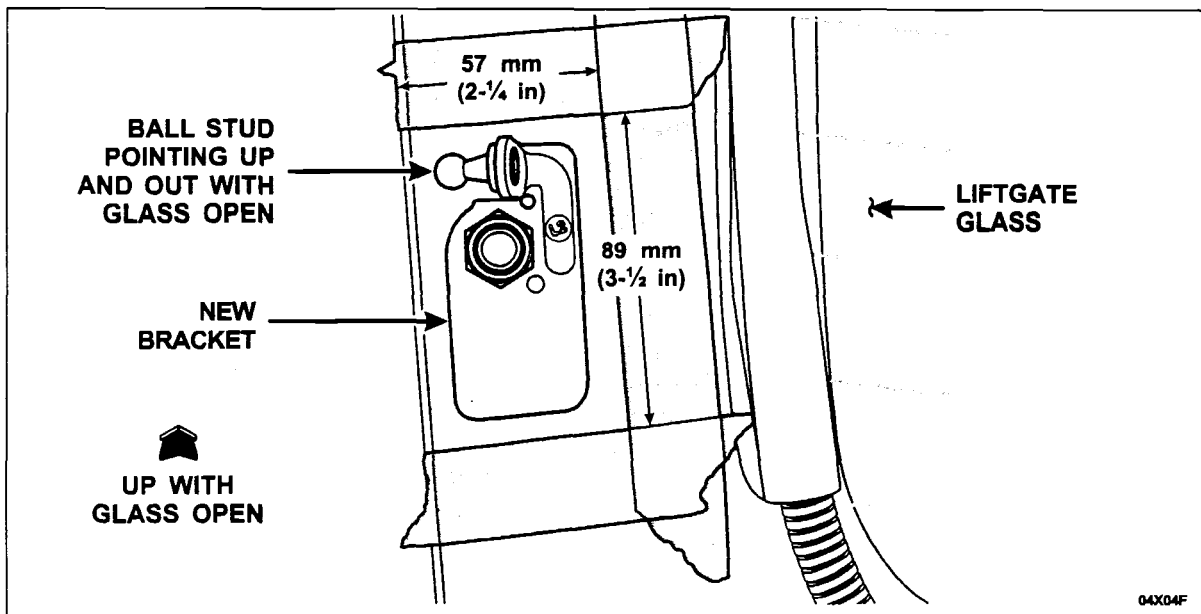

FIGURE 6
3. Hold the **new** bracket in position on the glass with the ball stud pointing UP and OUT (with the liftgate glass open). Mark the area around the bracket using masking tape or vinyl tape. Leave a space approximately 7 mm ( $\frac{1}{4}$  in) between the edge of the bracket and the tape. The taped-off area should be approximately 57-mm ( $2\frac{1}{4}$  in) wide and 89-mm ( $3\frac{1}{2}$  in) high. See Figure 6 for proper placement and dimensions. After the tape is applied, remove the bracket. The tape will be used as an alignment guide, therefore, keep the tape in place until completing the final bracket alignment.